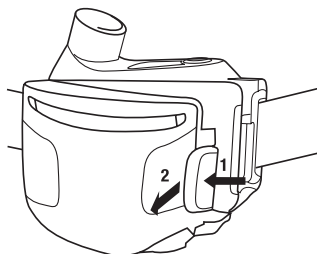

Fig. 5
- o Press the cover latch on the right side and lift off (Fig. 5).